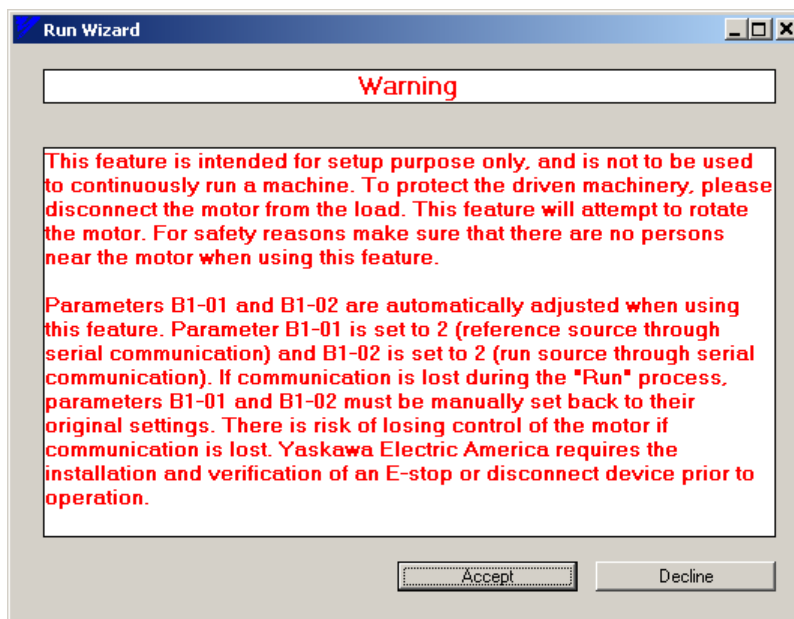

Figure 8.1: Initial Run Wizard Warning Window
4. If this is the first time you are enabling Run Wizard the warning in Figure 8.1 will appear. Click on **Accept** to continue, click **Decline** to stop the function.